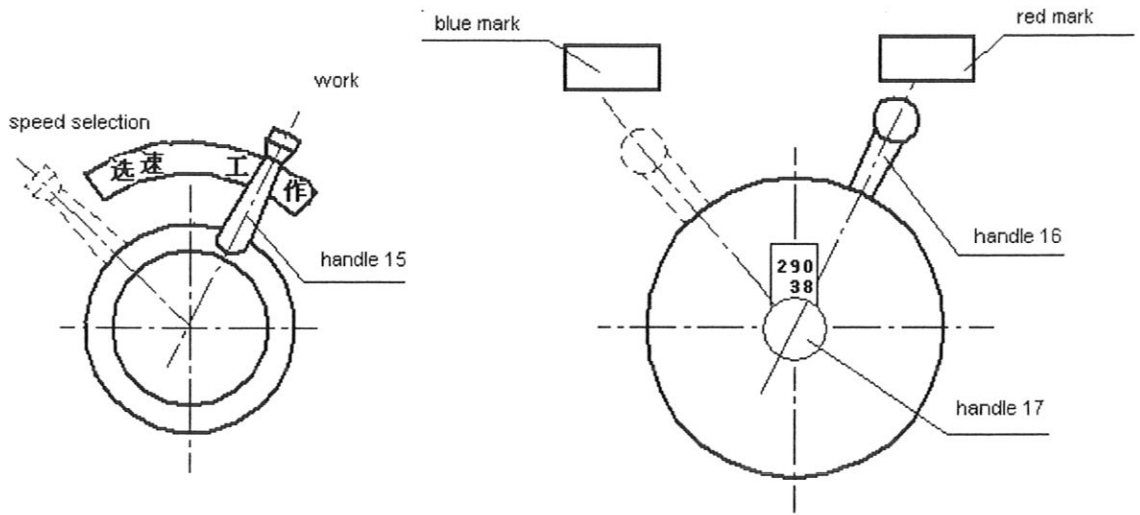

Fig.18 Spindle speed & working selection Fig.19 High & low spindle speed selection
5.2.1.2.1 Speed change of 45° universal rotary milling head of series X6225. X6230. XQ6232. X6225/1. X6230/1. XQ6230/1 machines is as follows: firstly move select handle 15 to high (red mark) or low speed (blue mark), if can't, jog the spindle jog button 18, and then turn the speed change handle 17 clock-wisely or anti-clock-wisely until to required position (the spacing line which is used to indicate the high & low speed must point to the triangle mark upper the disk, see Fig.18) and handle 16 must be in the lowest position, in this way, the gear-shift is finished.
As showed in Fig.18 and Fig.19, when the handle 15 is in working position, when it is on the red position, the spindle speed will be 290r/min on the red board.